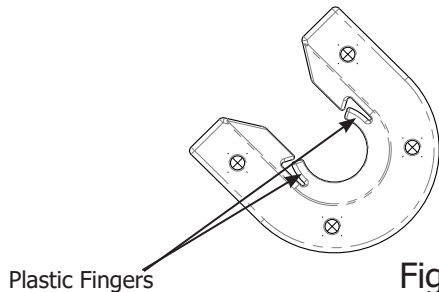

Fig. 11-2
**NOTE:** The poles will snap past the plastic fingers, which are shown in Fig. 11-2.